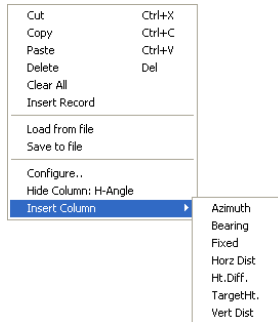

Figure 12-39. Insert a Column using the Insert Column Command
entry, access the Context popup menu by clicking and holding down the right mouse button (Figure 12-39).
- Specify the editing sequence of any element (type) by using the **Configure** menu option (Figure 12-39) on the **Context** popup menu and then selecting any option under the *Edit Sequence* panel.